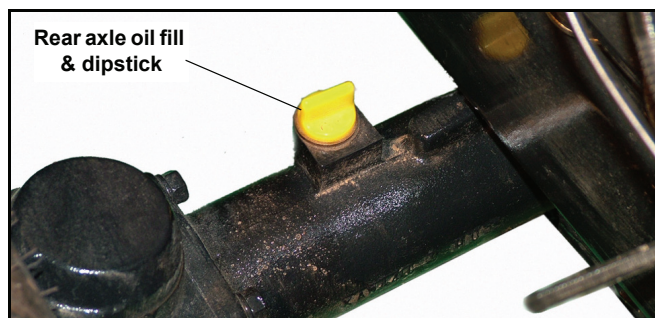

Figure 4-26
**NOTE:** Place the dipstick/filler plug into the oil inlet to measure the oil level. Do not screw dipstick into housing when checking oil level. Figure 4-26
2. Supply new ISO VG46 hydraulic oil into the fill hole until oil level is between the two marks on the dipstick. Figure 4-26